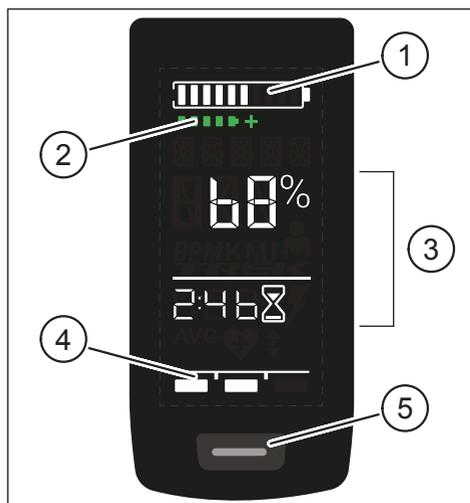
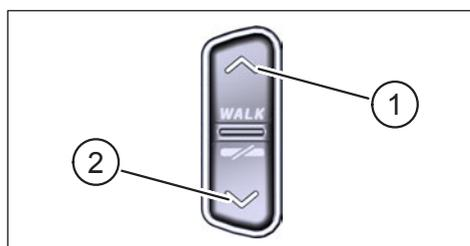

Fig. 1: Operation and indication components on Display
Fig. 2: Operation on the Remote
| Pos. in Fig. 1 | Description |
| Pos. in Fig. 2 | Description |
- ▶ Press and hold the button on the Display (pos. 5 in Fig. 1) and the DOWN button on the Remote (pos. 2 in Fig. 2) for at least 5 seconds.
- ▶ With a **short** press on the button on the Display (pos. 5 in Fig. 1) you switch to the next screen view.
- Press the DOWN button on the Remote control (pos. 2 in Fig. 2).
- Press the button on the Display (pos. 5 in Fig. 1).